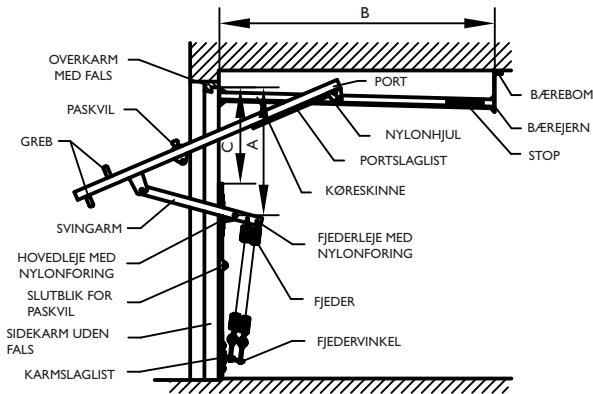
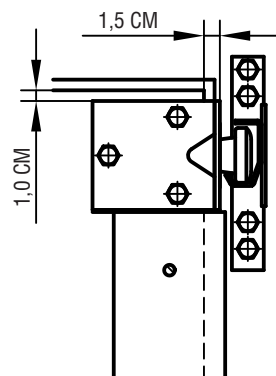

FIG. 1
FIG. 4
1. VINKLERNE MED NYLONHJUL MONTERES PÅ PORTEN. SE FIG. 4.
3. KARMLISTERNE FASTGØRES PÅ KARMENS INDVENDIGE SIDE. SE FIG. 1 - 2 & SKEMA.
4. HOVEDLEJET MONTERES PÅ KARM OG PORTVINKLEN MONTERES PÅ PORTEN. SE FIG. 1 - 2 & SKEMA. NB. UDMÅLINGEN SKAL VÆRE NØJAGTIG I BEGGE SIDER OG ARMENE SKAL STÅ LODRETTE. HOVEDLEJEBOLTEN BØR EFTERSPÆNDES EFTER 3-4 MÅNEDER. TILSPÆNDINGSMOMENT 130 NM
5. KØRESKINNERNE SKRUES PÅ KARM. SE FIG. 4. HÆLDNING BAGUD CA. 8 CM BÆREJERNENE MONTERES PÅ KØRESKINNERNE OG STROPPERNE FASTGØRES TIL LOFT. SE FIG. 1.
9. PORTENS STOPKLODS PLACERES I SKINNE. SE FIG. 1. SÅLEDES AT SVINGARMENE ER LIDT FORBI LODRET STILLING. OM NØDVENDIGT MONTERES EN GUMMIDÆMPER PÅ KLODSEN.